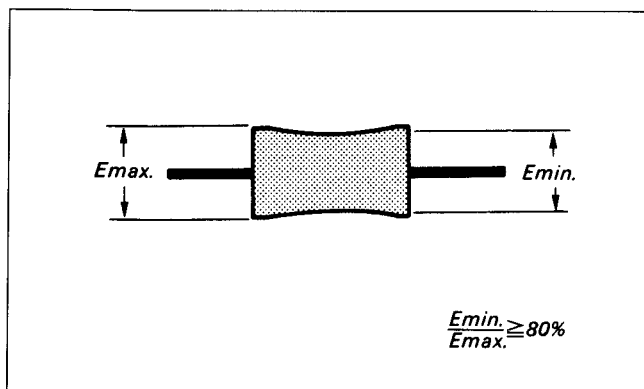

Fig. 7-80.
- 3) Confirm that the RF waveform amplitude minimum value (E min) at this time is more than 80% of maximum value (E max.). (See Fig. 7-80.)